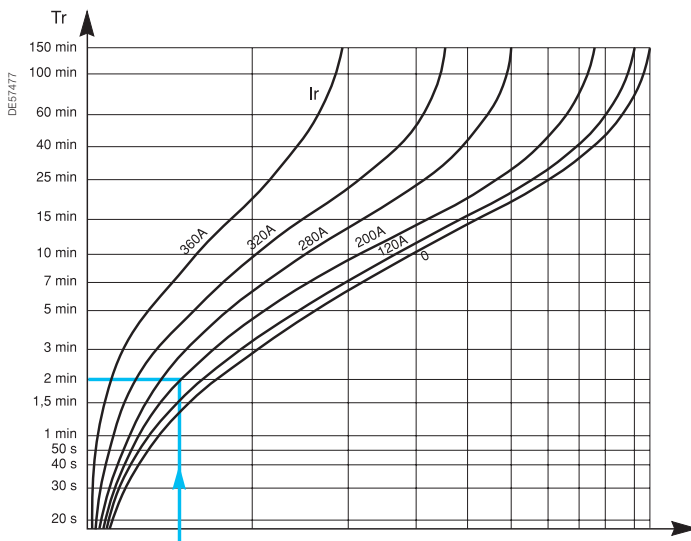
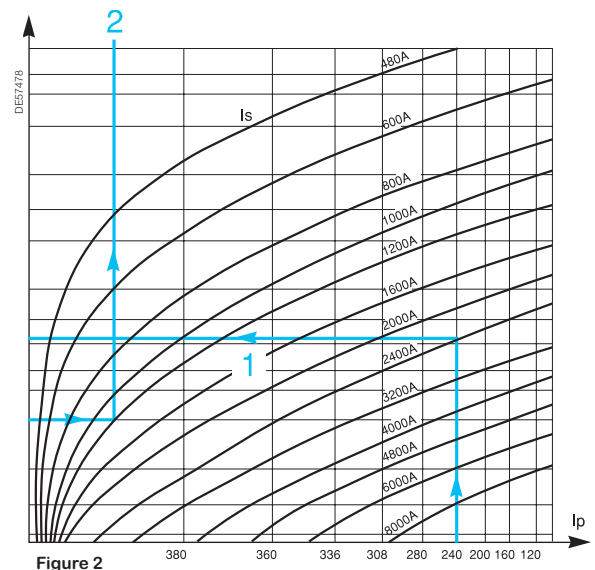

Figure 1
Figure 2
The two curve systems (Figure 1 and Figure 2) can be used to determine the maximum current surges accepted by the Rollarc 400 contactor, in temporary or periodic service.
- Temporary service: knowing the steady state current I_p , we can determine the maximum duration T_s of a current surge I_s from **graph 1** (Figure 2).
We can determine the 4th parameter using **graph 2** (Figure 1 and Figure 2).